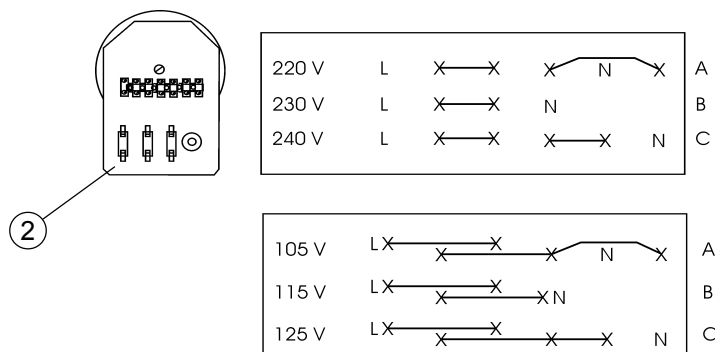

Figure 16
3. Check the transformer (2) tapping for the correct configuration, figure 16.
3. Remove the exit guide bracket (2) from the Bookletmaker and replace it with the new one (3), figure 16. Note: Install it as high as possible!
5. Move the Trimmer up to the Bookletmaker connect the communication cable (5) and the power cord (6), figure 16. Make sure the cable not interferes with the fold pocket.